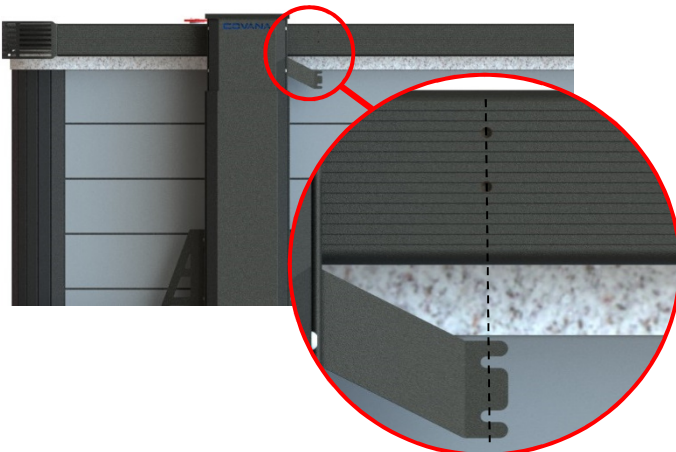

Figure 73
- 6) Place the two posts at the required position next to the spa and align the holes in the pivot arms with those on the side of the cover frame. (Figure 73) Both openings for the drive shafts at the bottom of the posts should be pointing toward the rear side of the spa.